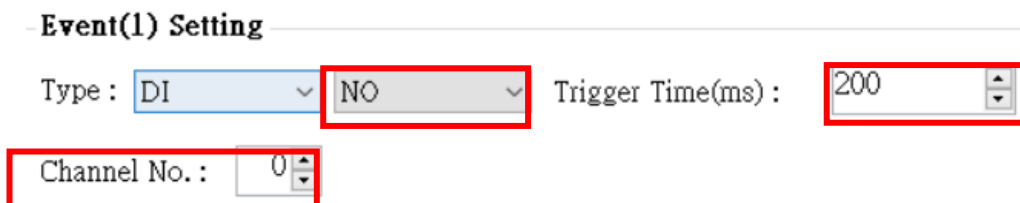

Figure 6.10.8
- F. Select trigger condition as “NC”, Trigger Time “200ms” and Channel No. “0” as shown in Figure 6.10.8